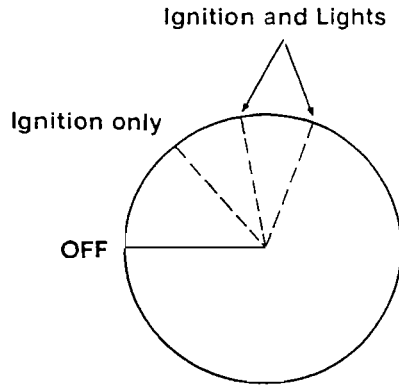

Figure 2-5. Ignition Switch Positions
9. *Ignition Switch* – See Figure 2-5. Key-operated, four-position switch controls vehicle electrical functions. In OFF position, lamps will not light, engine cannot be cranked using engine start switch, and ignition system is disabled so that engine cannot be started by kick starting.